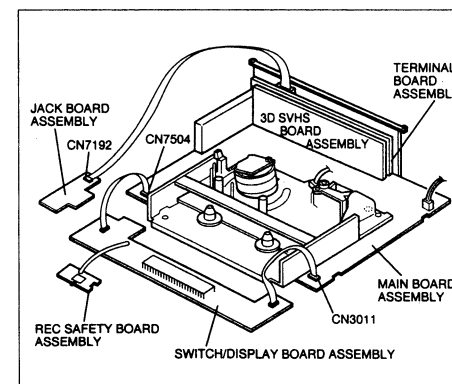

Fig. 1-4-3
- (8) Place the Switch/Display board assembly, REC safety board assembly and Jack board assembly on the front side of the Mechanism and Main board assemblies which was removed at the step (6), then connect the flat wires into CN3011 and CN7504 of the Main board assembly and CN7192 of the Jack board assembly. (Refer to Fig. 1-4-3.)
1.4.3 Cassette loading and ejection methods in the "SERVICE POSITION" (See Fig. 1-4-3).
- (1) Insert a cassette halfway in the Cassette holder assembly.
- (2) Set the switch on the REC safety board assembly to ON (by pressing the switch).
- (3) As soon as the cassette starts to be loaded, set the switch on the REC safety board assembly to OFF (by releasing the switch).
- (4) Now the desired operation (recording, playback, fast forward, rewind, etc.) is possible in this status (the status shown in Fig. 1-4-3).
- When performing diagnostics of the tape playback or the recording condition in the "SERVICE POSITION", enter the desired mode before turning the set upside down, and do not change the mode when performing diagnostics while the set is placed upside down. If you want to switch the mode, turn the set to the normal position (the status shown in Fig. 1-4-3).
- (5) The switch on the REC safety board assembly does not have to be operated when ejecting a tape. But be sure to turn the set to the normal position before ejecting the tape.